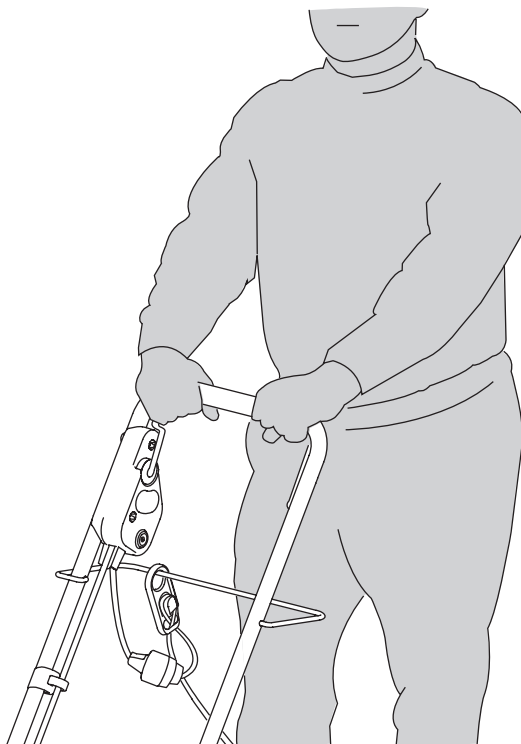

Fig. 7
6. Release the (red) starter button and grasp the handle and bail together with both hands (Fig. 7).